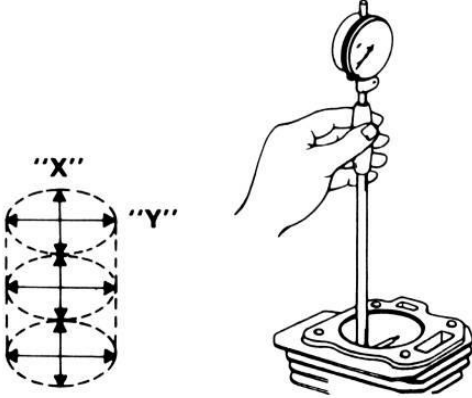

Figure 4-32: Checking Cylinder Bore Service Limit
3. See Figure 4-32. Measure the top, middle and bottom of the cylinder bore at the X and Y axis.